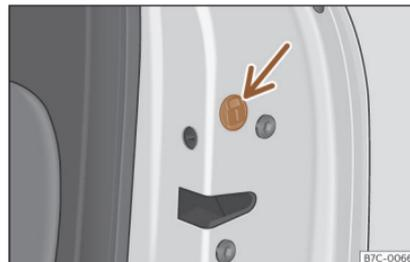

Fig. 65 Locking the door manually.
- If necessary, remove the rubber seal  from the front of the door >>> **Fig. 65** .